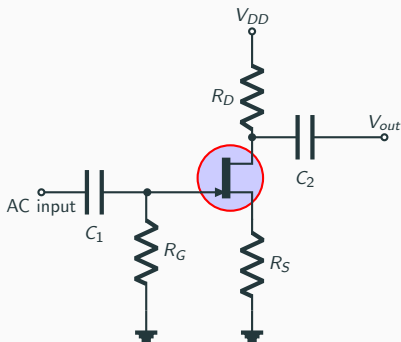

Figure 11: self-bias network
A graphical solution obtained by finding the point of interception between the plots of the transfer Equation (5) and the network Equation (9) is shown in Fig. 11.